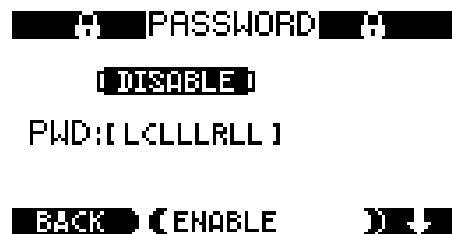

Figure 10: Set password screen
- 6iv) Use the right-hand button labelled with an arrow to scroll through the menu. Highlight SET PASSWORD then press the central ENTER button. This brings up the password screen, shown in Figure 10.